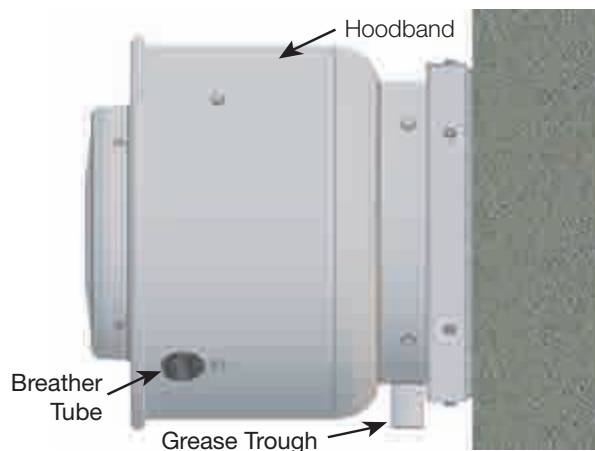

Figure 2
6. Lift the fan into place and orient the breather tube and grease trough in a downward position as shown in Figure 2.